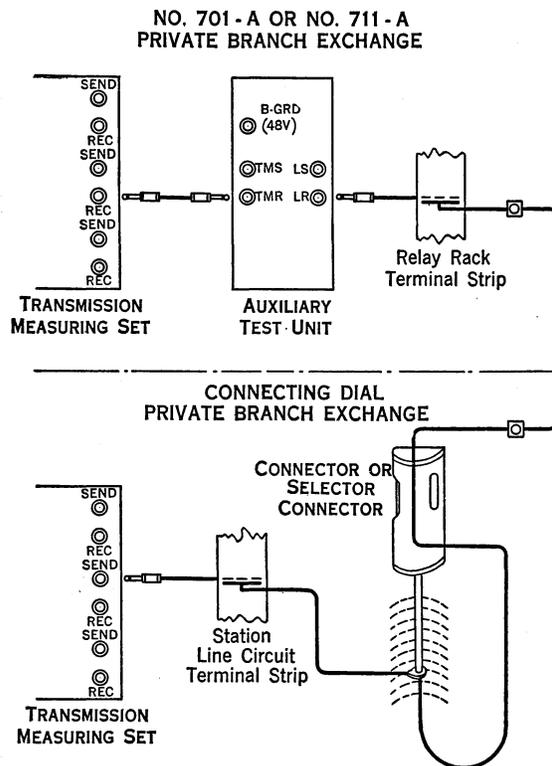

Figure 6
2.91 Figure 6 shows schematically the connections for the test.